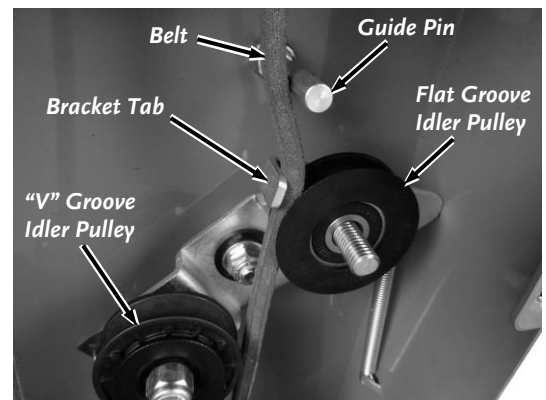

Figure 29
9. Install the small Spacer first, then the Flat Groove Idler Pulley with the Belt in the groove. Make sure you place the Belt correctly between the Idler Pulley, Bracket Tab, and Guide Pin (**Figure 29**).
The Belt must be installed on the inside of the guide Pin as shown in **Figure 29**. If it is not installed on the inside the Trimmer Head will not function correctly.